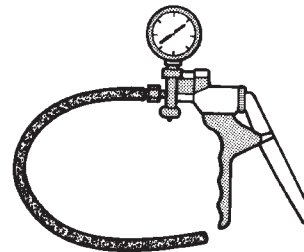

Fig. 2 Typical Hand Operated Vacuum Pump
- (3) Hand operated vacuum pump can be used for test (Fig. 2).